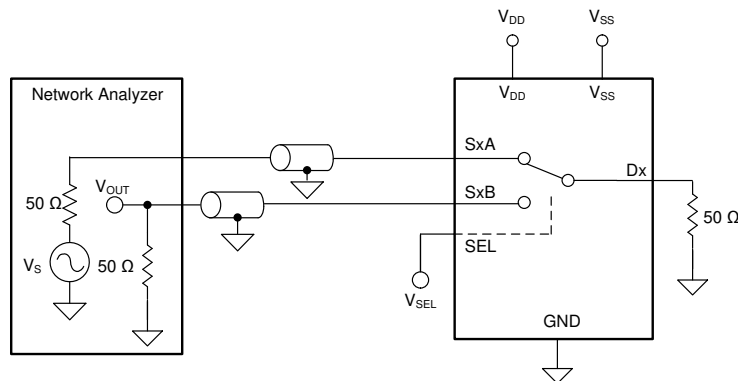

Figure 7-8. Intra-Channel Crosstalk Measurement Setup
1. Intra-channel crosstalk: the voltage at the source pin (S_x) of an off-switch input, when a 1-VRMS signal is applied at the source pin of an on-switch input in the same channel, as shown in Figure 7-8.